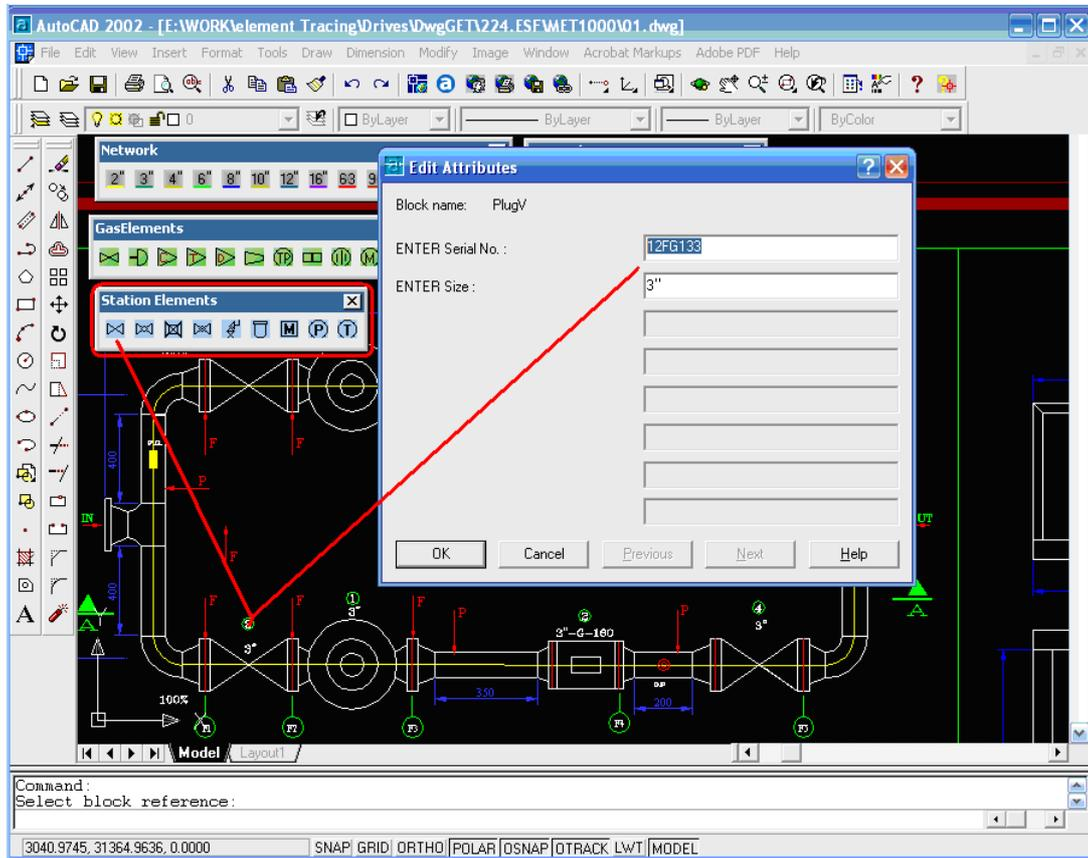

Figure 21
- Figure 21 : CGS or TBS elements and their identifications.